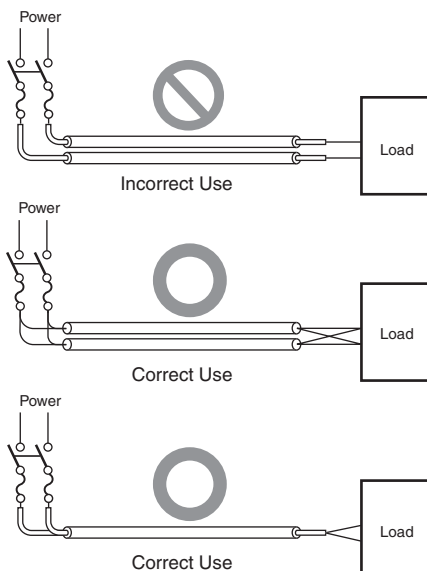

Figure 10. Parallel use of Electrical Wires (single phase)
- (3) When using conduits in the course of wiring, the wires from one circuit should not place wires for a single circuit in separate conduits as the pipes heat up. (See Figure 10)